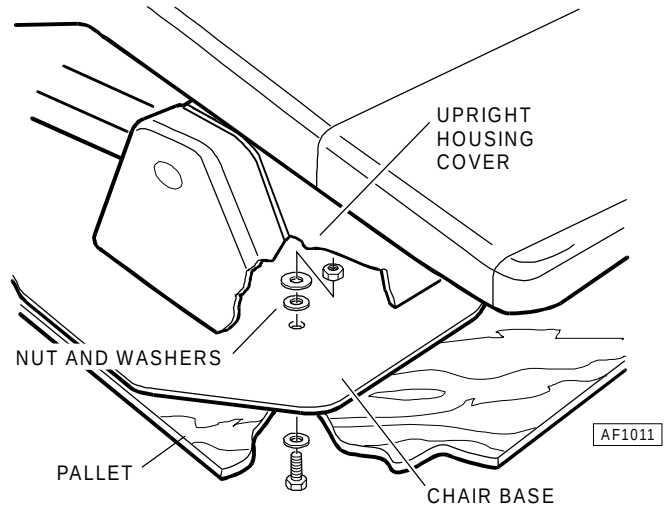

**Figure 3**
4. Locate the two nuts at the front of the chair base (beneath the upright housing cover) that secure the chair to the pallet. Using an adjustable wrench, remove the nuts, washers and bolts (see Figure 3).